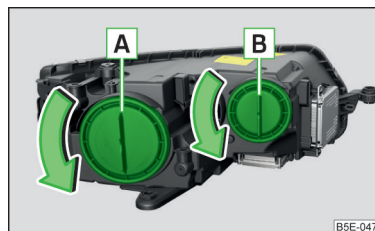

Fig. 236
Bulb arrangement » Fig. 236
- › Turn the protective cap **A** » Fig. 236 on page 227 in direction of the arrow.
- › Insert the protective cap **A** » Fig. 236 on page 227 and turn it opposite to the direction of the arrow.
- › Turn the protective cap **B** » Fig. 236 on page 227 in direction of the arrow.
- › Insert the protective cap **B** » Fig. 236 on page 227 and turn it in the direction opposite to the arrow.